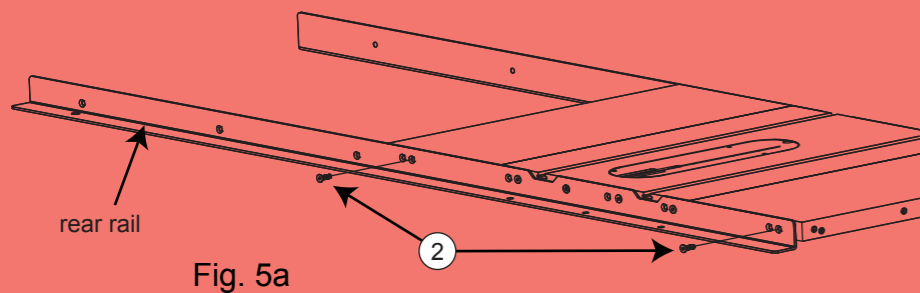

Fig. 5a
• Finish mounting the rear rail to your saw by inserting an M8 x 25 countersunk socket head bolt (2) through the open hole at the end of each extension wing (see Fig. 5a) and placing an M8 washer (3), an M8 lock washer (4), and an M8 hex nut (5) on the threaded end of each bolt (see Fig. 5b). Hand tighten the nuts; do not fully tighten them.